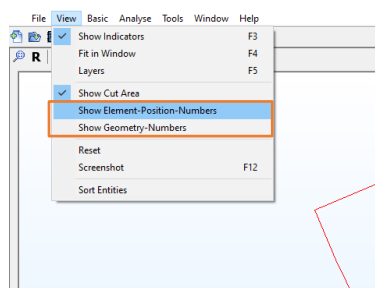

Figure 26
5. Press button **View** in the *Main Menu* to deactivate [**Show Element-Position-Numbers**] and [**Show Geometry-Numbers**] (Figure 26).